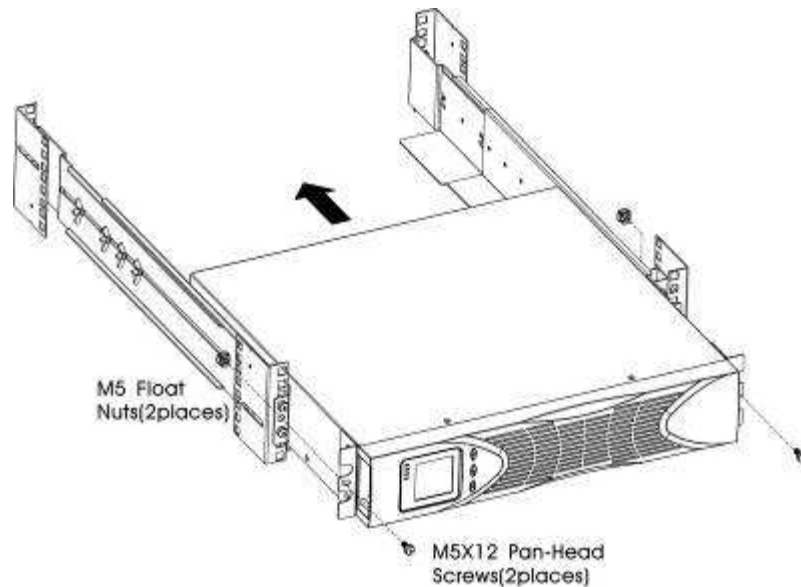

Figure7 Securing the Front of the Cabinet
12. Secure the front of the UPS to the rack using one M5×12 pan-head screws and one M5 cage nuts on each side(see Figure 7).Install the bottom screw on each side through the bottom hole of mounting bracket and the bottom hole of the rail.